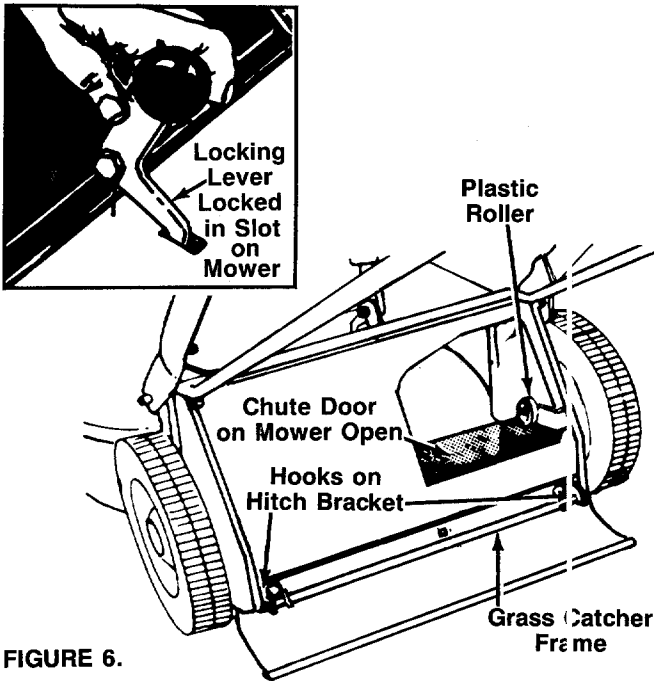

FIGURE 6.
1. Attach the grass catcher frame to grass catcher hitch bracket on rear of the mower by hooking grass catcher into hooks on grass catcher hitch bracket. See figure 6.
2. Lift the rear of grass catcher up. The roller on the grass catcher will push the chute door on the mower open. See figure 6.
**NOTE:** Figure 6 is shown with the chute door open for clarity only.
3. Move the locking lever forward and hook in slot on mower. See figure 6, inset.